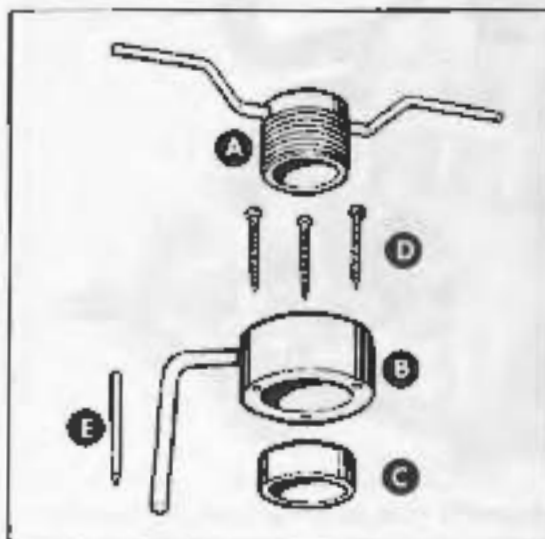
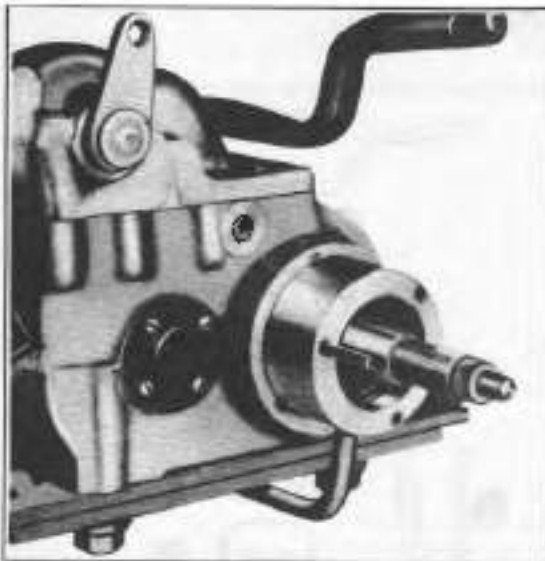

Figure 4-7 Main Drive Gear Oil Seal Tool
Figure 4-8. Centerpunching Screw Hole Locations
Main Drive Gear Oil Seal Tool, Part No. 95560-42, (Figure 4-7) enables removing worn or damaged oil seal and installing new seal without removing or disassembling transmission. It may be used on transmission removed from chassis as well. To use, transmission must be assembled with the exception of clutch and countershaft sprocket.
Place sleeve (C, Figure 4-7) on end of main drive gear. Slide body (B) over sleeve with body stop rod downward. Turn body clockwise until stop bears against transmission case or mounting plate. Hold body in this position and insert center punch (E) through each of the three holes in body and center punch oil seal as shown in Figure 4-8.
Insert sleeve (C, Figure 4-7) into oil seal. Place sleeve and seal on main drive gear with lip side of seal toward transmission case. Turn seal so it will not stake at same joints old seal was staked.